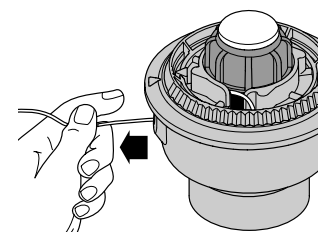

Fig. 18
6. Pull the line from the outer spool until the line is tight against the inner reel (Fig. 18).
If the SpeedSpool® does not release line correctly, pull the ends of the line firmly from the spool (Fig. 18). If this does not release the line, follow the Cleaning the SpeedSpool® instructions.